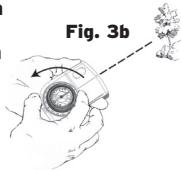

Fig. 3b
2. Rotate the dial until the red outline aligns with the north-seeking needle. Read your heading/bearing at the index line. (Fig 3b) When using a mirrored compass, keep your landmark centered in the sighting window, and align the needle with the orienting arrow using the reflection shown in the mirror.